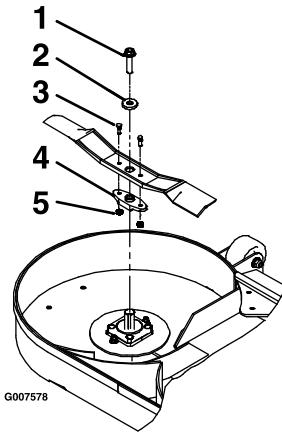

Figure 63
3. Remove the blade, washer, and blade bolt that secures the blade and blade driver (Figure 63).
4. Remove the blade driver from the existing blade (Figure 63).
1. Install the blade driver to the new blades with the shear bolts and locknuts (Figure 63).
4. Install the blade, washer, and blade bolt to the spindle shaft (Figure 63).